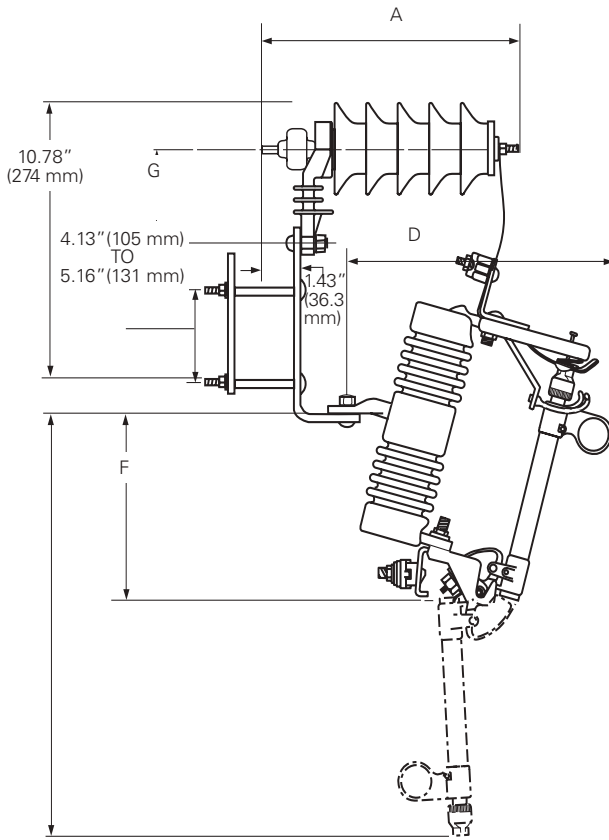
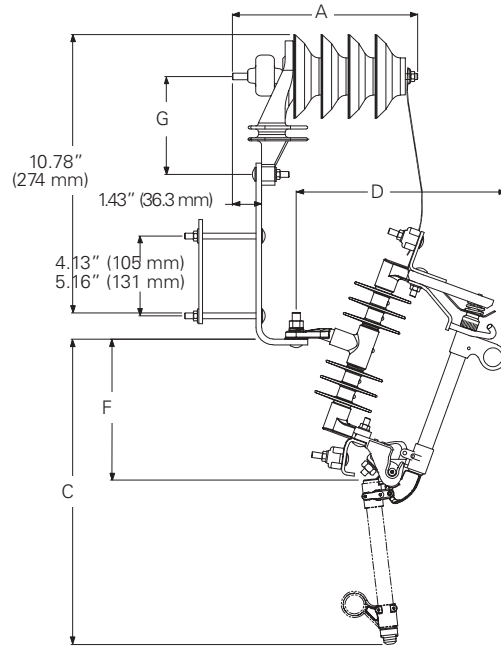
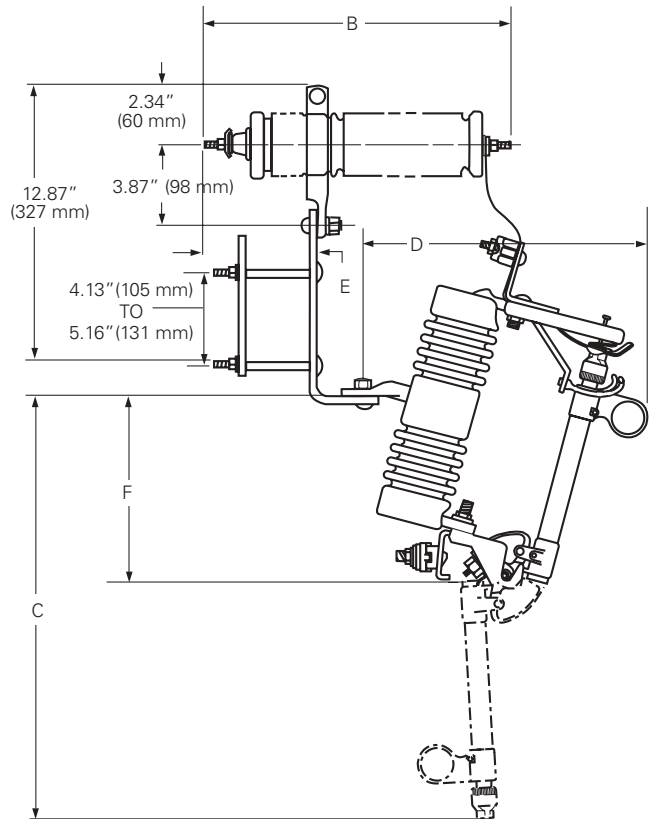

Figure 11. UltraSIL polymer-housed surge arrester/porcelain Type L fuse cutout/arrester combination
Figure 12. UltraSIL polymer-housed surge arrester/ UltraSIL polymer-insulated Type L fuse cutout/arrester combination
Figure 13. Porcelain-housed surge arrester/porcelain Type L fuse cutout/arrester combination
Figure 11 shows an outline drawing of an UltraSIL polymer-housed surge arrester/porcelain Type L fuse cutout/arrester combination. Figure 12 shows an outline drawing of an UltraSIL polymer-housed surge arrester/ UltraSIL polymer-insulated Type L fuse cutout/arrester combination. Figure 13 shows an outline drawing of porcelain-housed surge arrester/porcelain Type L fuse cutout/arrester combination. Porcelain arresters are not available in combination with UltraSIL polymer-insulated Type L cutouts.
* Refer to Figure 12 and Figure 13.